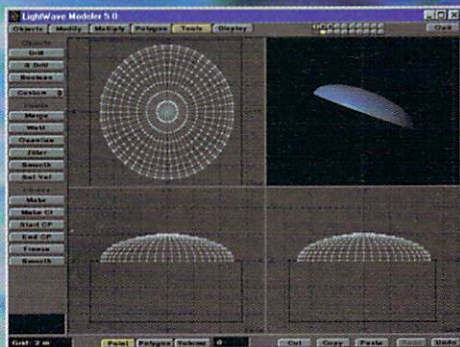

Figure 3
10. Go to the Tools menu and select Boolean. Click Subtract if it isn't already highlighted and click OK. You should now have an object that looks like half a yo-yo (see Figure 3).